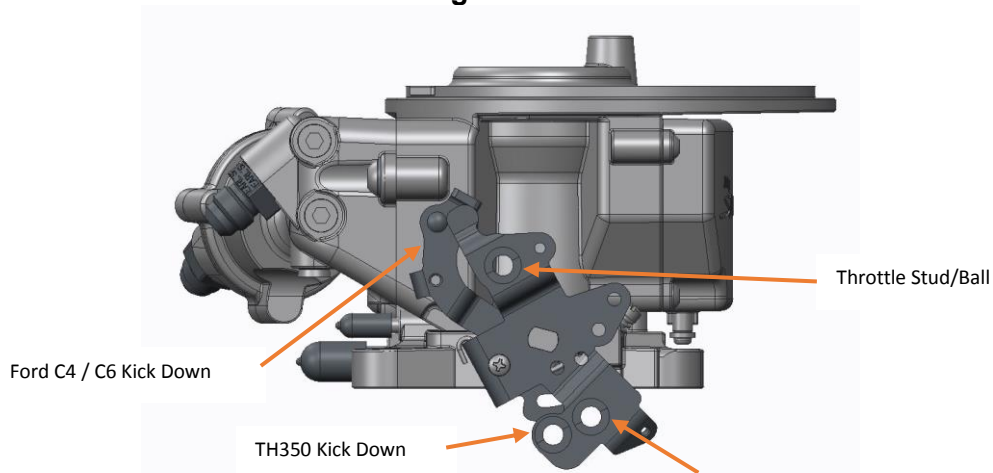

Figure 2 200-4R / 700-R4 Kick Down
3. Reconnect the throttle and transmission kick-down linkage. Be sure to check for any binding conditions and correct before proceeding. Poorly routed throttle cables & linkages can cause throttle pedal issues. See figure 2 for correct linkage placement.